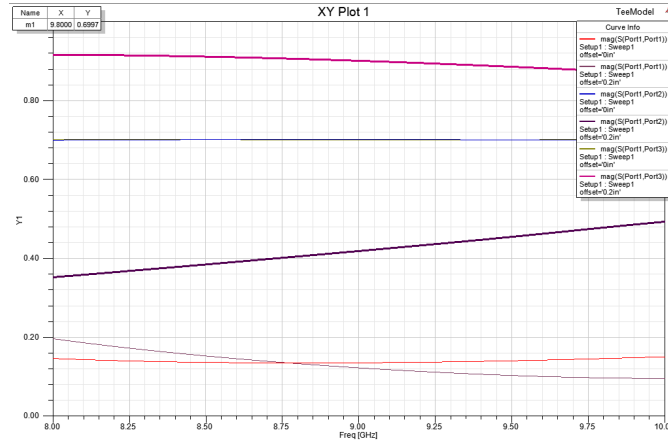

Figure 10: Example S parameter plot for the three terminals of a T-junction with variable septum displacement 'offset'.
- Create Modal Solution Data Report (right-click RESULTS under the Project Manager): S Parameter plots are created from here. Also available: Y, Z Parameters, propagation constant, etc. (Figure 10)